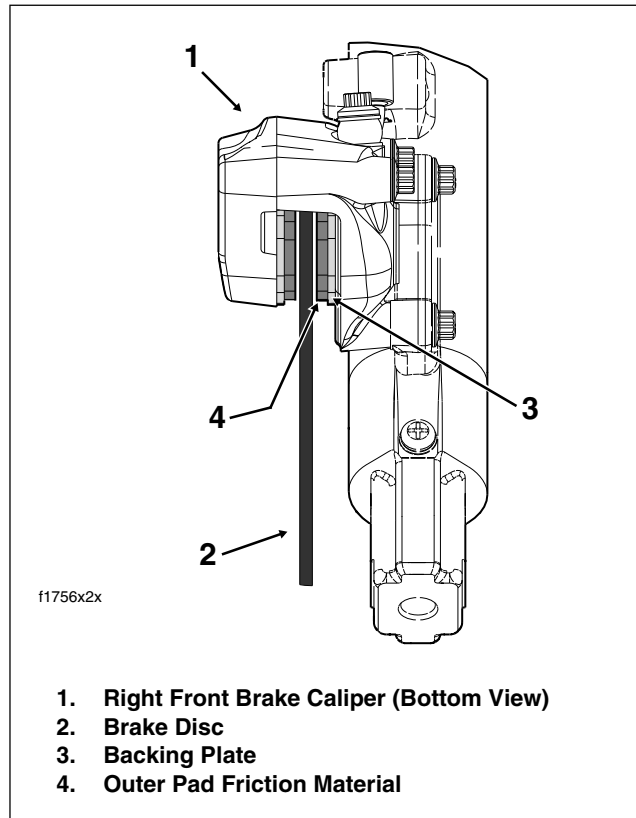

Figure 2-56. Measure Brake Pad Wear
1. Look up at the back of the right side caliper. See Figure 2-56.